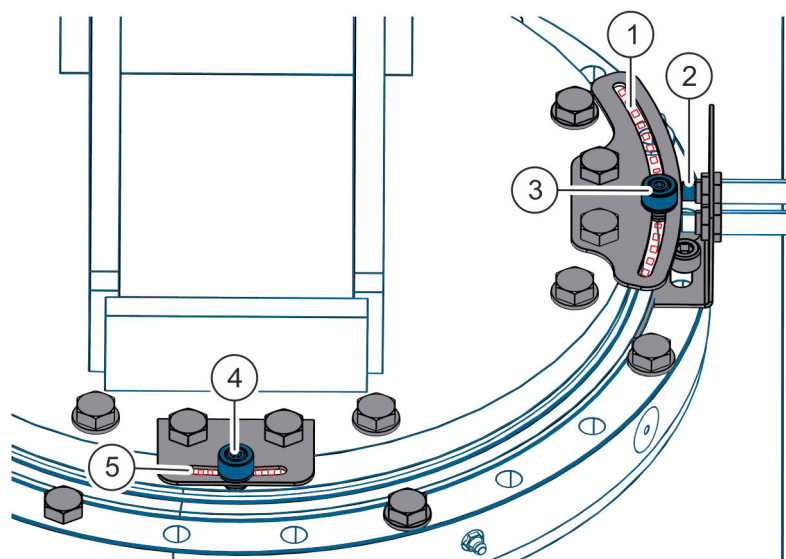

Fig. 22: Angle of rotation
1. ➤ Loosen the screw of the first query element (Fig. 22/3).
2. ➤ Move the query element (Fig. 22/3) to the desired angle of rotation (Fig. 22/1) until the query element is at the height of the first rotation angle sensor (Fig. 22/2).
4. ➤ Loosen the screw of the second query element (Fig. 22/4).
5. ➤ Move the query element (Fig. 22/4) to the desired angle of rotation (Fig. 22/5) until the query element is at the height of the second rotation angle sensor (Fig. 22/2).